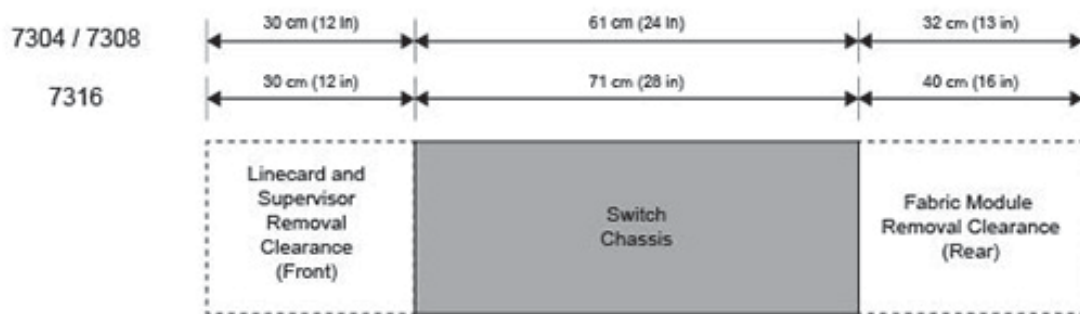

Figure 1: Switch Component Removal Footprint
- **Rack Space:** Install the switch in a 19" rack or cabinet. The switch height depends on the switch model, as specified in Table 1: 7300 Modular Switch and Component Specifications. Verify that the linecard and supervisor removal clearance (Figure 1: Switch Component Removal Footprint) provide adequate space for the power and data cables that connect to the switch.